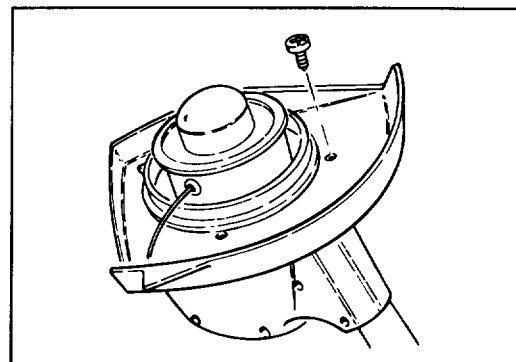

Figure 6
3. Push back side of grass shield down and align screw holes. Secure with screws (Fig. 6).